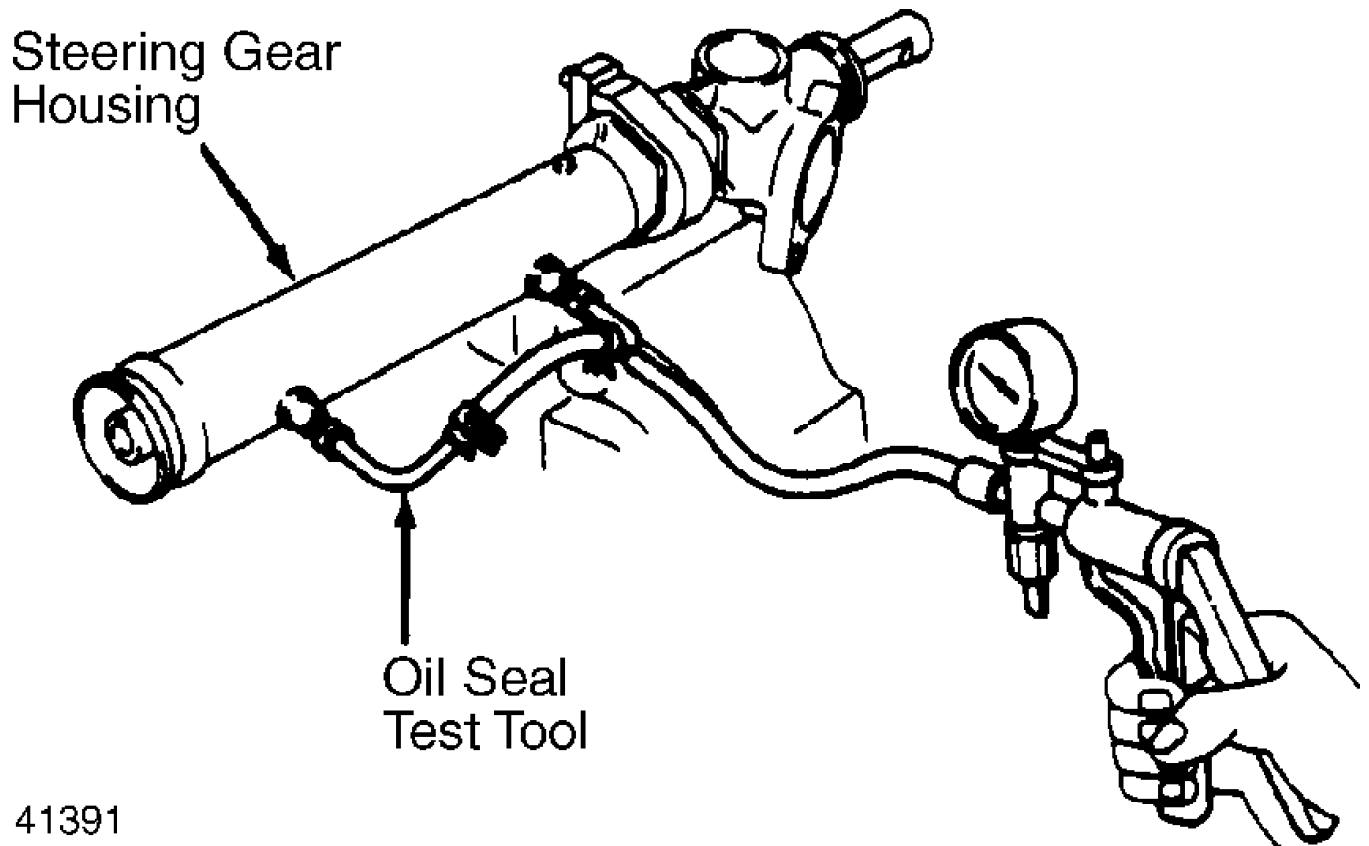

Fig. 6: Testing Rack Seal
3) Install Oil Seal Tester (09631-12070). Apply 15.8 in. Hg vacuum for 30 seconds. If vacuum drops, recheck seals, "O" rings, and Teflon rings in rack housing. See Fig. 6.